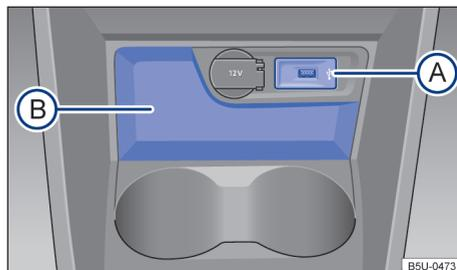

Fig. 95 In the front centre console: stowage compartment.
Open stowage compartment in the front centre console → Fig. 95 (B).